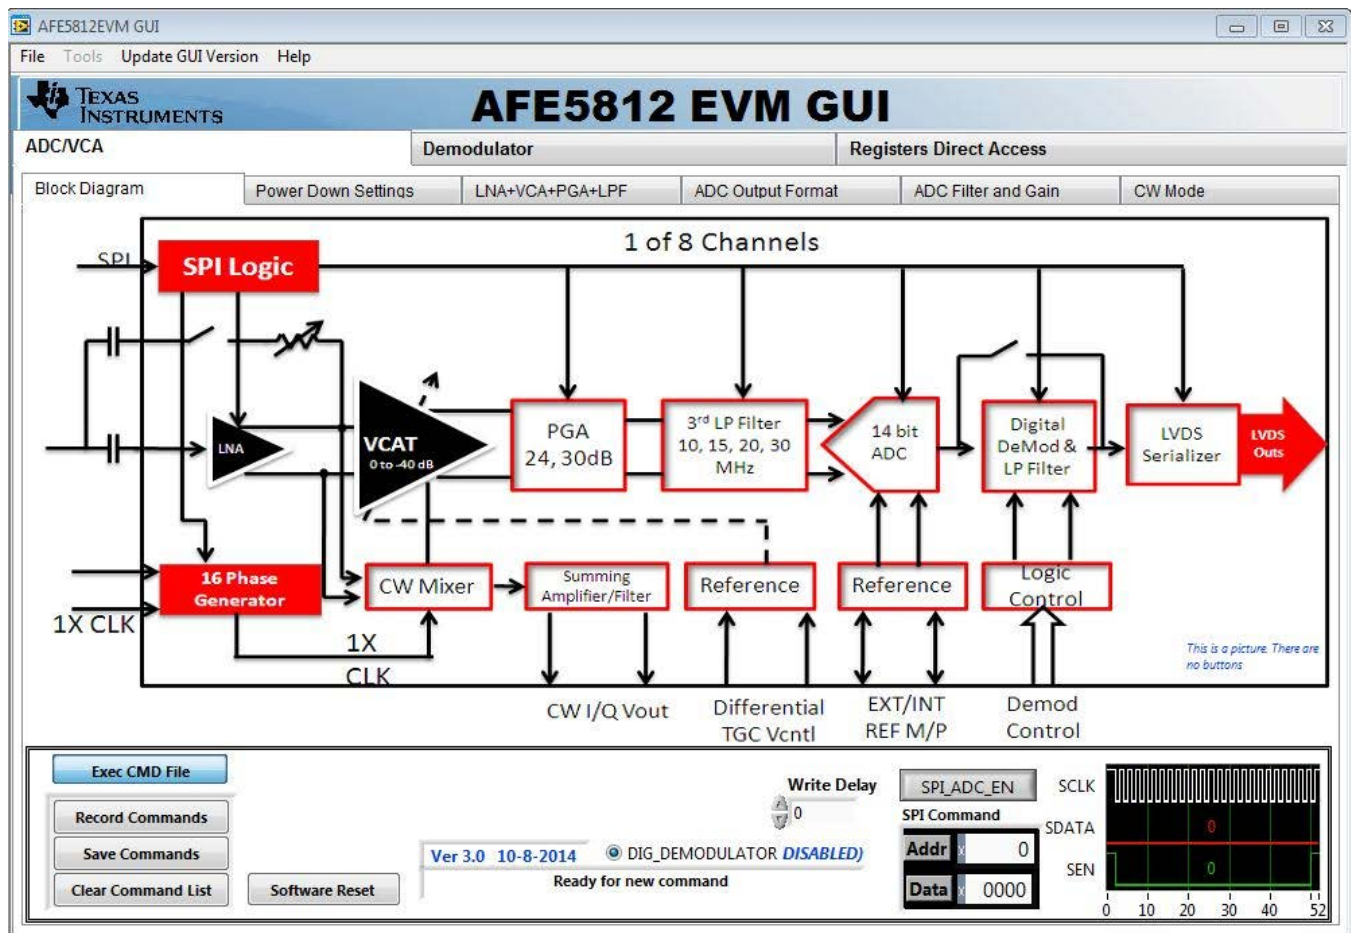

Figure 5. Front Page for AFE5812 GUI, HW connected properly
2. If the USB cable is connected properly, GUI front page will look like Figure 5.